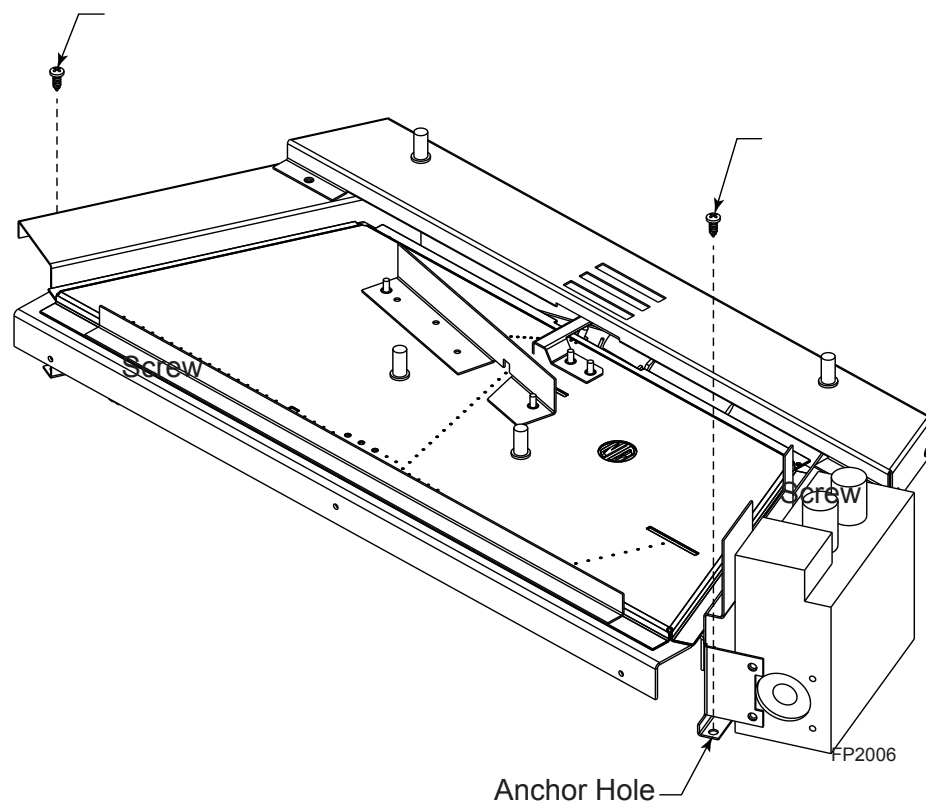

Figure 13 - Secure Heater to Floor of Fireplace/Firebox
2. Anchor holes are located on the right and left sides of the unit. After centering the burner correctly, mark the hole positions on the fireplace/firebox floor. Drill two (2) 5/32" diameter holes approximately 1 1/2" deep.
3. Anchor the burner to the fireplace/firebox floor using the screws provided. *Figure 13*